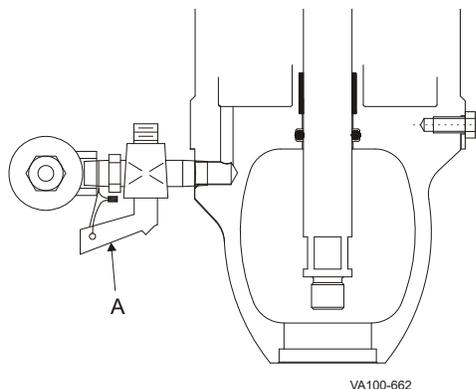

Figure 24: Air Shutoff Valve
2. Turn the “Air Shutoff Valve” (Figure 24, item A) to lock air in the actuator.